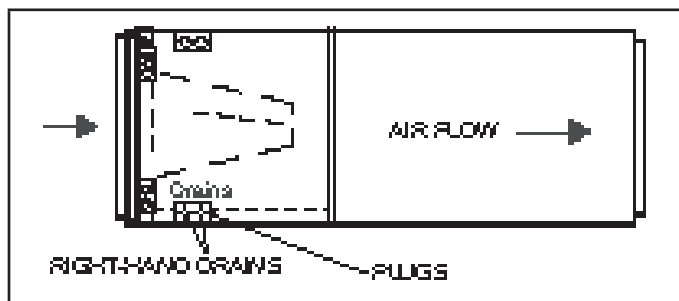

FIGURE 4. Right-Hand Discharge Configuration
- 4 - The horizontal configuration is shown in FIGURE 4.